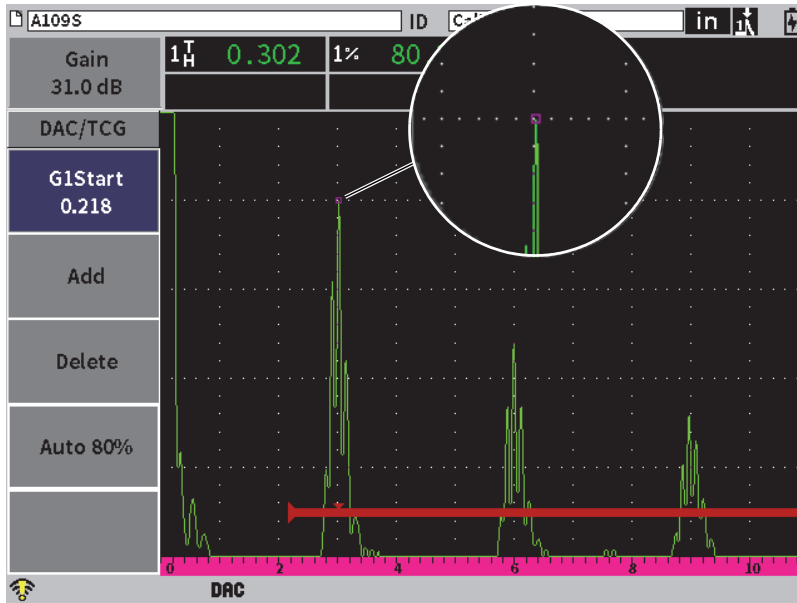

Figure 11-4 First DAC point
2. Press the Tab key to highlight **Add**, and then press the Enter key to add the first point (see Figure 11-4 on page 178).